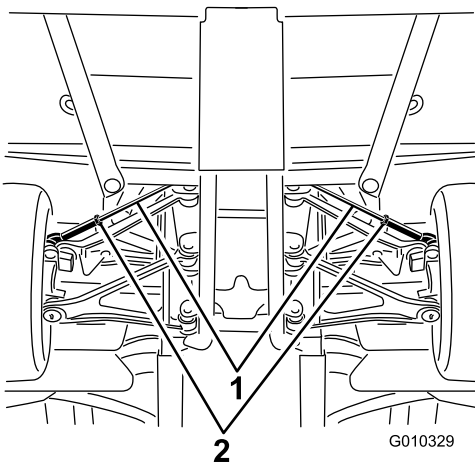

Figure 50
- A. Loosen the jam nut at the center of the tie rod (Figure 50).